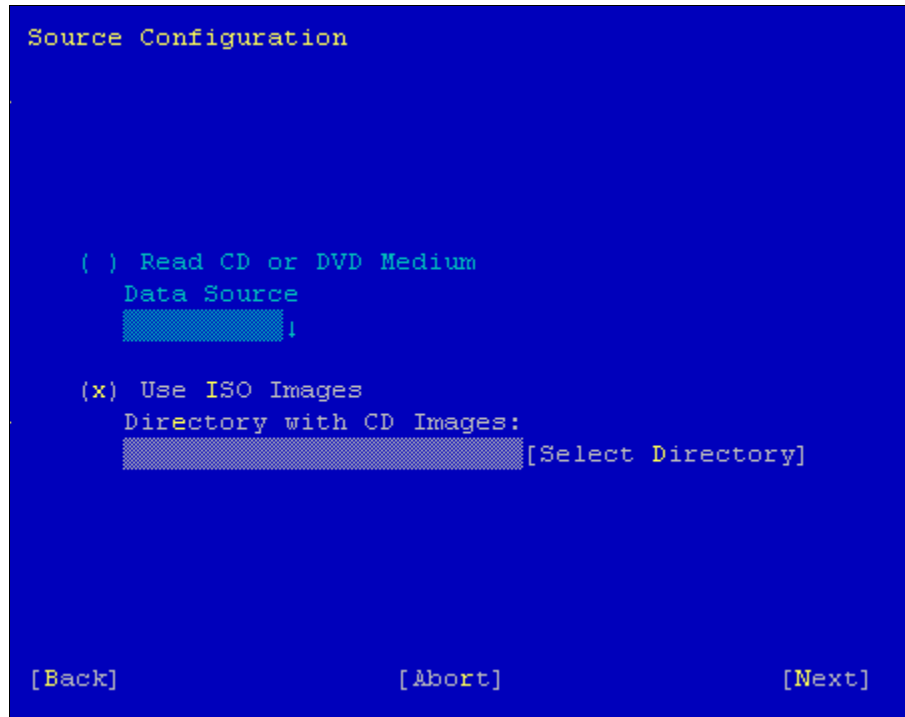

Figure C-3 Source configuration window
9. At the Source Configuration window, if you have a DVD of the operating system, click the check box. Otherwise, if you have ISO images of the DVD contents, select the second check box and browse via Select Directory to the directory that contains all ISO images of all CDs (see Figure C-3 on page 543).
11. If you chose the Read CD or DVD Medium option given in Figure C-3, you will be prompted to insert the first DVD.